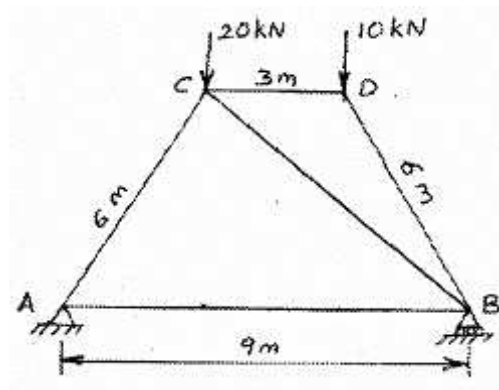

Figure 1:
3. The pin jointed truss shown in Figure 1 is loaded with two point loads of 20kN and 10kN at the upper joints. Evaluate the forces in the members using the method of tension coefficients. [16]